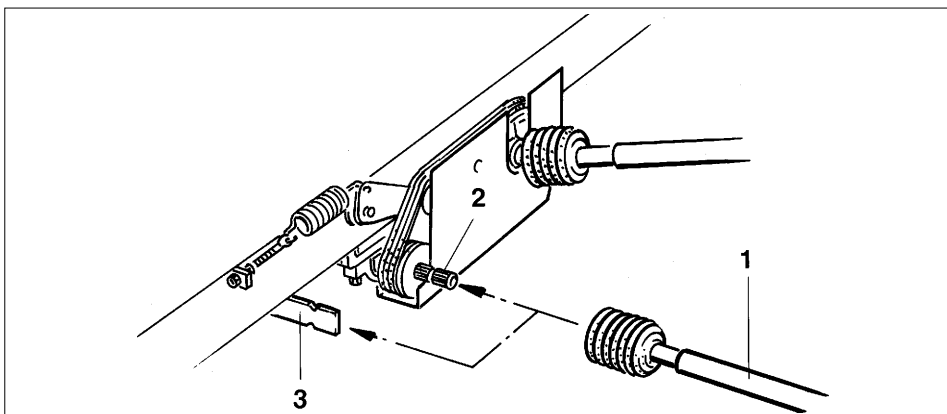

Fig. 4.26
- Insert the bolt (fig. 4.26/1) next to the p.t.o. shaft connector and secure it using a spring pin (fig. 4.26/2).